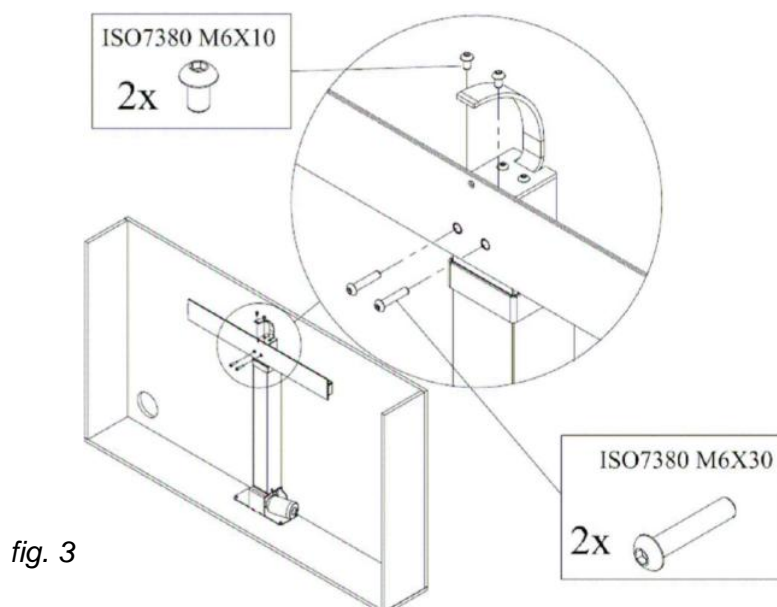

fig. 3
- Using attached screws mount horizontal beam to the column (fig. 3)